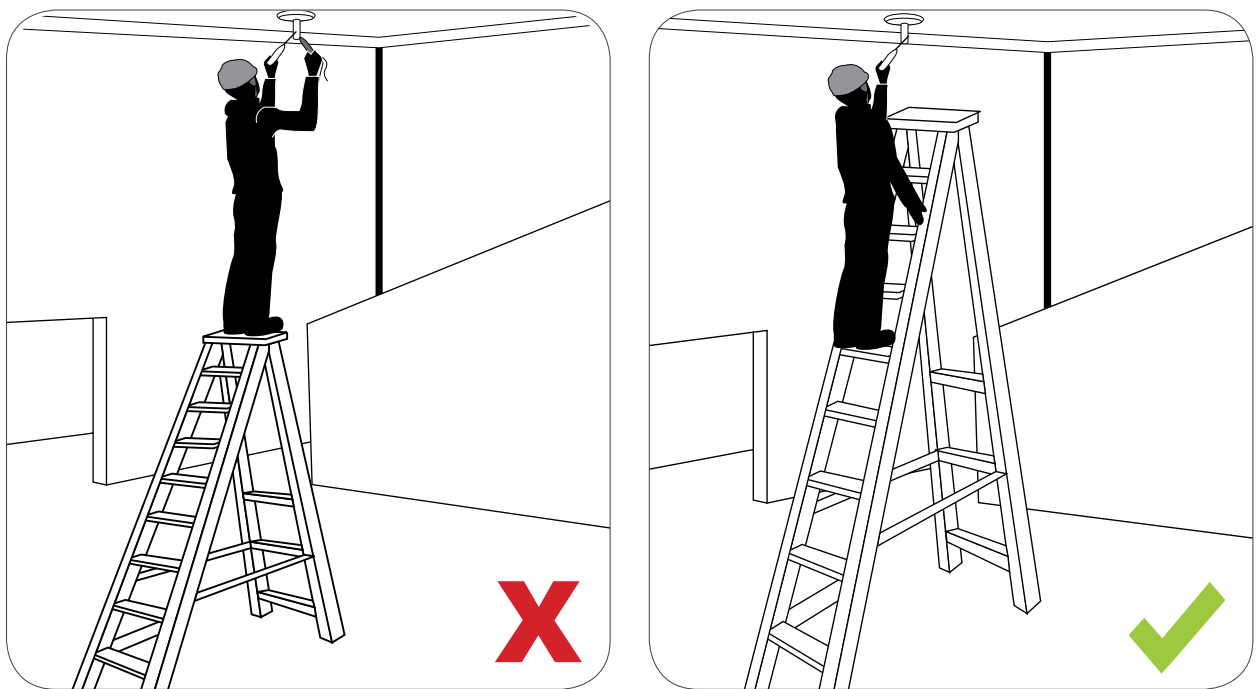

Figure 11.3: If it is necessary to work on a step ladder, work a few steps below the top rung, so that a handhold can be maintained.
- 11.2.1.3** Standing on top of a step ladder (see Fig 11.3, left) is highly unsafe and should never be done. If it is necessary to work from a step ladder, work a few steps below the top rung, so that a handhold can be maintained.